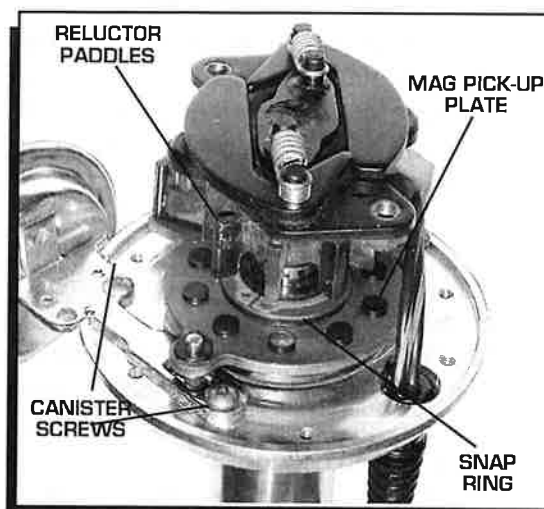

Figure 10 Removing the Vacuum Canister.
1. Remove the two Allen head screws that hold the advance canister (Figure 10).